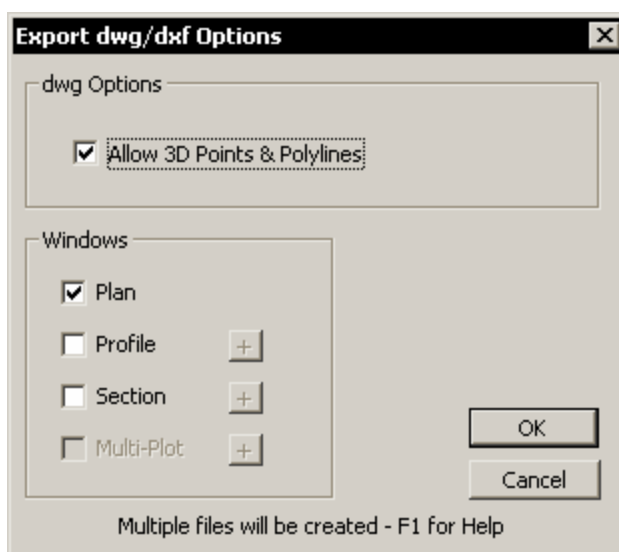

Figure 9.19: Select Layers for DXF Export Dialog.
4. Keep the default name, **Export**. Press *Save*. The *Export DWG/DXF Options* dialog box will appear. Change the dialog so that it has the same information as Figure 9.19